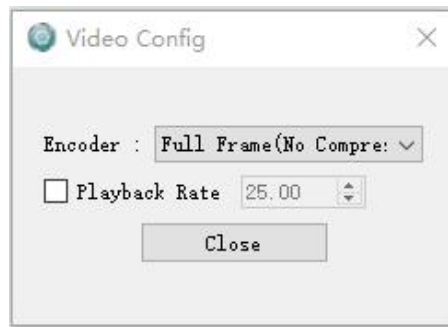

Figure 5-6
- 9) Setup: As shown in Figure 5-6, configure video compression format and playback rate. Compression options include Full Frame (No Compression) and MPEG-4.